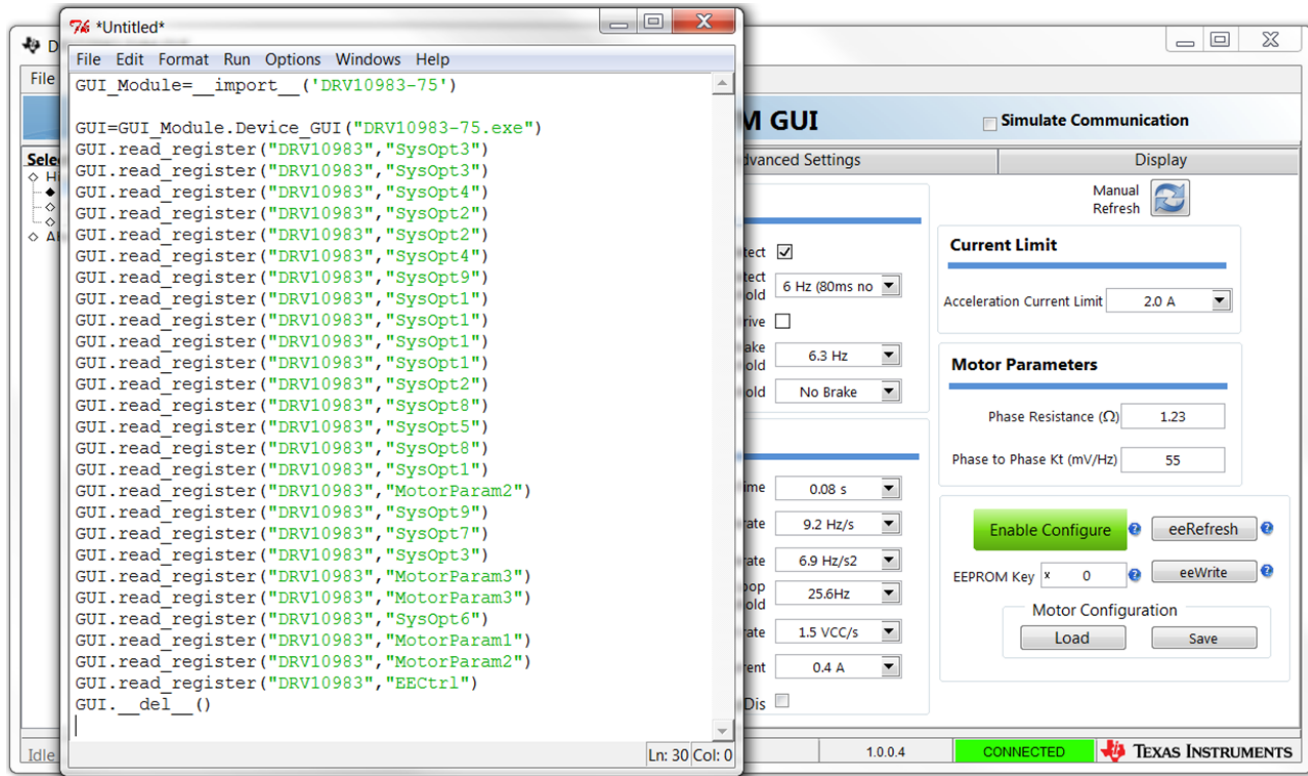

Figure 40. Stop Recording
- The Launch Window remains after the recording has been stopped, as shown in Figure 40. It can be closed with or without saving.